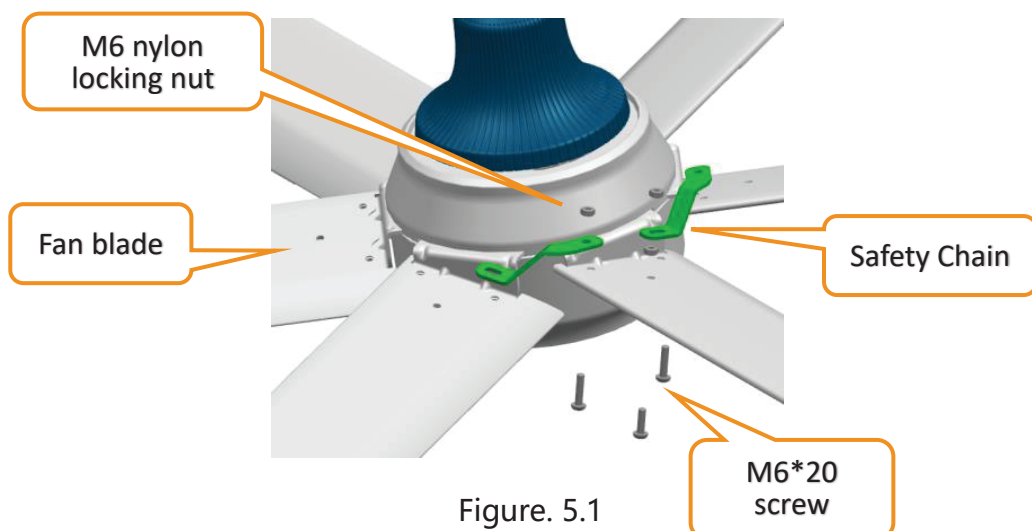

Figure. 5.1
① Pull out the black fan plug at the front end of the fan blade, insert the blade with the blade holder on the motor, align their installation holes. Then use three M6*20 hexagonal bolts, flat washers, spring washers, and M6 nylon locking nuts to tighten the blades and the safety chain (attention: the head of the screws must facing downward during the installation, see Figure 5.1)
② Follow the principle of symmetrical installation, install all remaining fan blades